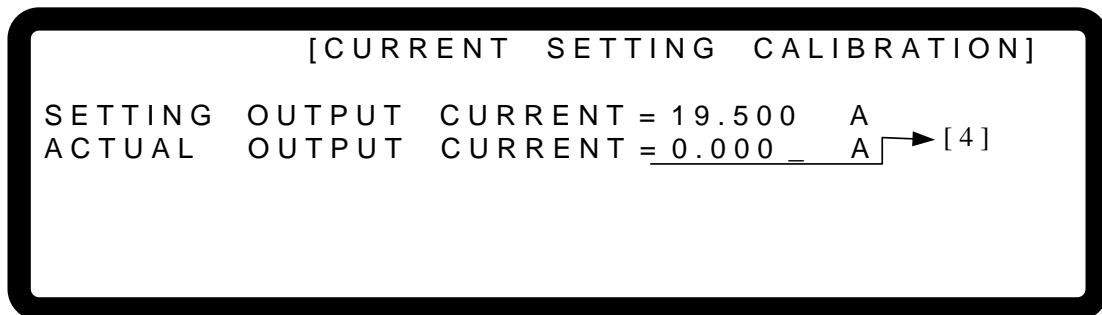

Figure 3-123
11. Press “” to do the 19.5A calibration. The system will set the output current to 19.500A automatically and the cursor will stop at position [4] as shown in Figure 3-123. Input the current read by the Current Shunt (DVM) and press “” to confirm.